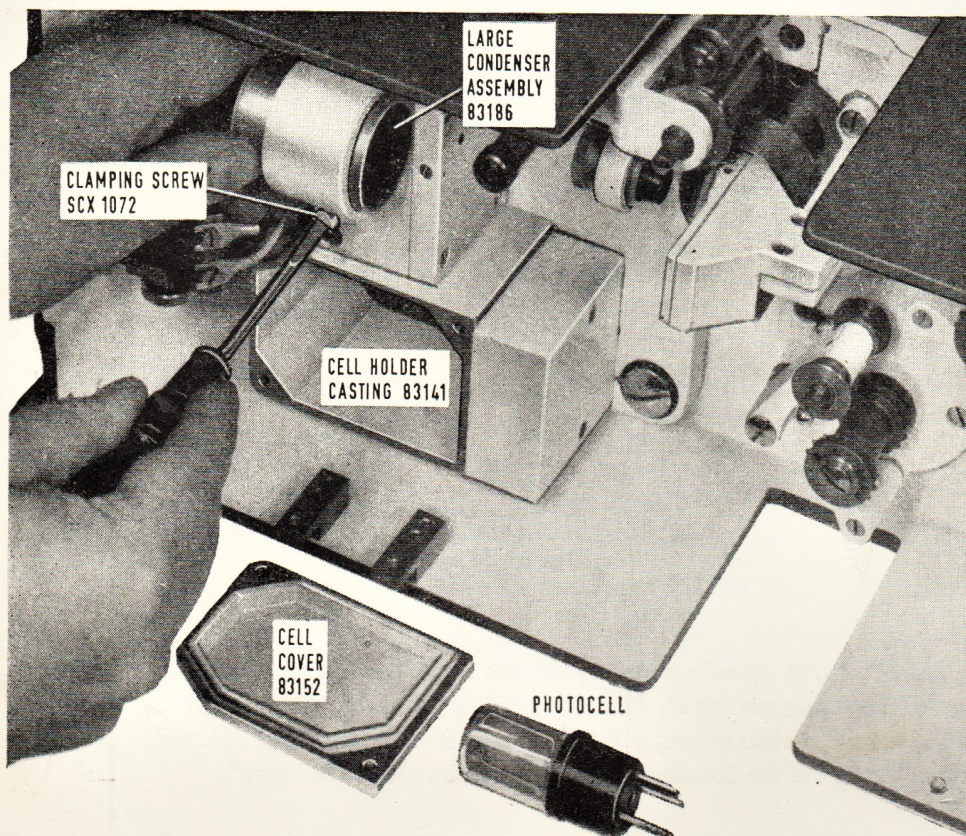

FIGURE T1.
- (a) Unscrew the clamping screw SCX 1072, until the Condenser Lens assembly is freed (See Fig. T1).